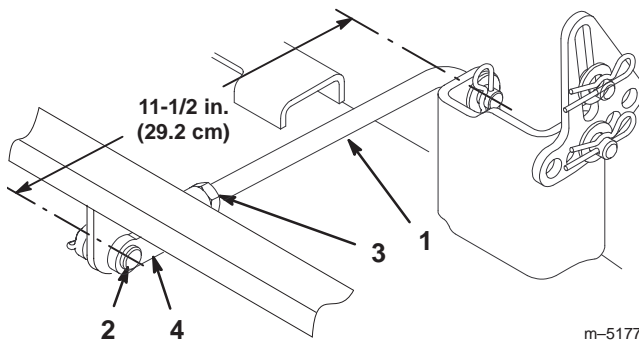

Figure 36
4. Measure the length of the rear trunion rod (Fig. 36). If the rod length is not 11-1/2 in. (29.2 cm), remove the clevis pin and cotter pin from the end of the rod (Fig. 36), loosen the jam nut, and turn the yoke until the 11-1/2 in. (29.3 cm) dimension is obtained. Then secure the yoke with the clevis pin and cotter pin. Repeat this procedure on the opposite side of the mower.
10. When the front-to-rear blade slope is correct, tighten the jam nuts (Fig. 36 and 38).